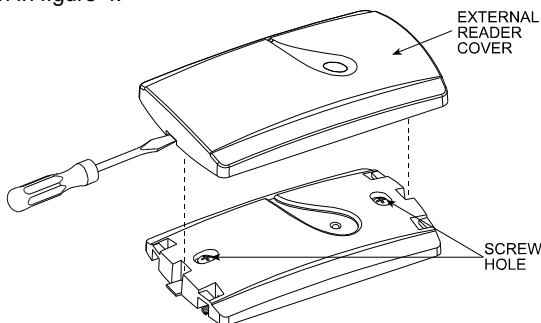

Figure 3 - Separating the External Reader Cover
- A. Insert a screwdriver into the recess at the bottom or top of the case (see figure 3), and separate the cover from the reader.
**NOTE:** Make sure that the cover is aligned with the reader, as shown in figure 3, to enable the LED to be visible.